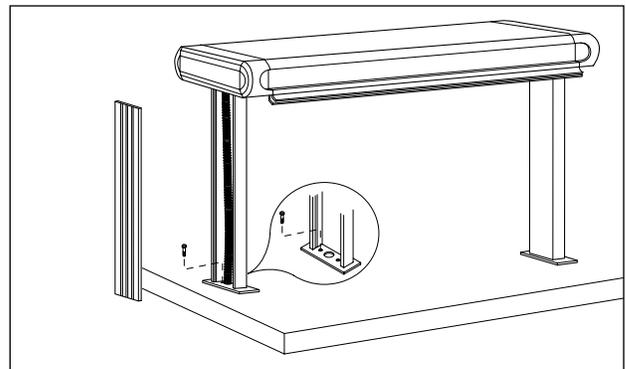

Figure 6. Installing Unit
2. See Figure 6. Position the acrylic breath protector into the channel on the warmer with the mounting holes aligned.